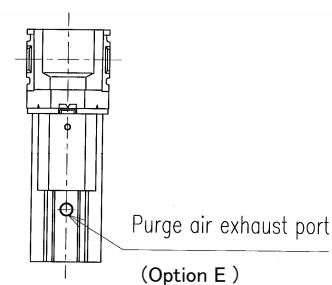

Fig.5
- 4) In case of the option E of SD300-W series, piping of exhaust air should use the hose or piping material of I.D. 5.7 mm or more, and give length as less than 3m. (Refer to Fig. 5)
- 5) In case of the option E of SD400-W series, piping of exhaust air should use the hose or piping material of I.D. 7.2 mm or more, and give length as less than 3m. (Refer to Fig. 5)